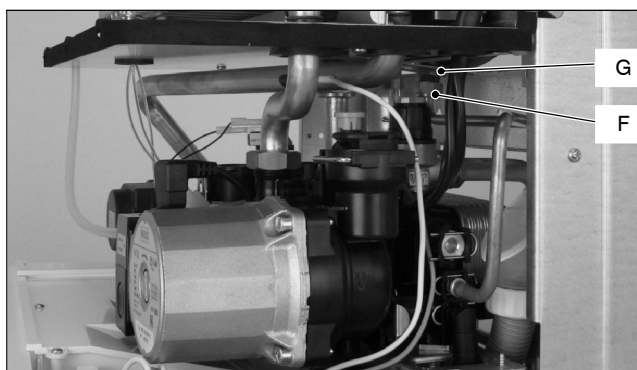

Fig. 5
- 2 Completely unscrew the connection *F*, the lock-nut *G* (Fig. 5) and remove the expansion vessel from the top of the boiler.